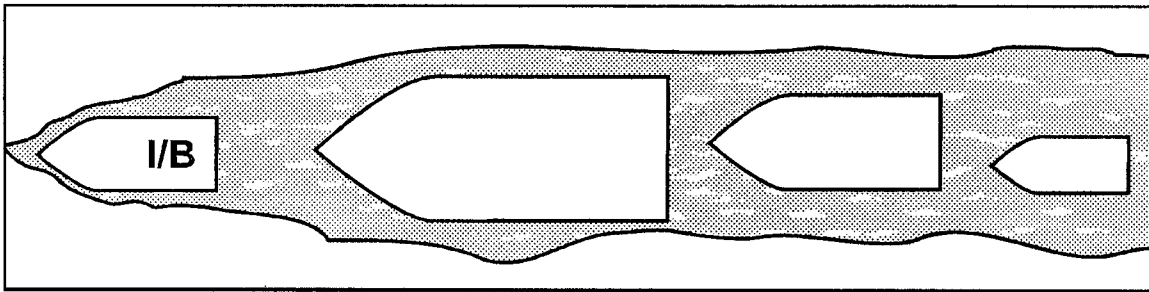
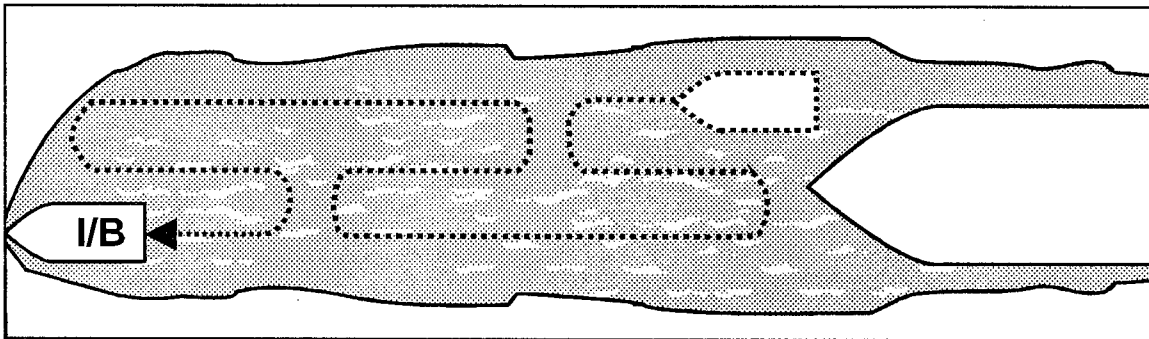

Figure 6-4 Breaking Track Ahead of Lead Vessel
Figure 6-5 Breaking Track Ahead - Parallel Track Back
3. Methods. There are several ways for the escorting vessel to handle a convoy. One way is to break track ahead of the lead vessel and allow the rest of the convoy to follow without further assistance (See **Figure 6-4**). Another way is for the escorting vessel to break track ahead of the convoy. Then break a parallel track back to the convoy. This works well if the escort can maintain a high enough speed to keep a track broken a safe distance ahead of the lead ship (See **Figure 6-5**.)